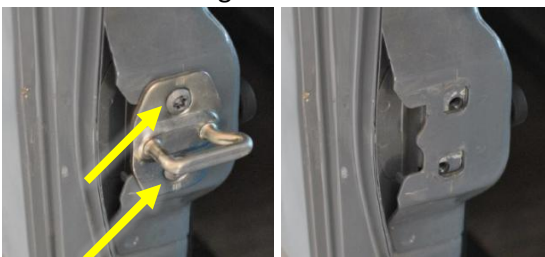

Figure 2: Driver's Side Inside Latch Pin Removal
4. Remove the center latch pin on the inside of the door as shown in Figure 2.
PRO TIP: Reference Figure 2 for suggested mounting orientation.